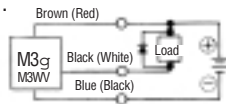

Fig. 3. Example where inductive load is used with diode. Use diode Hitachi V06C or equivalent.
- When connecting and using an inductive load (relays, solenoid valves), as surge voltage occurs with the switch off, be sure to wire a protection circuit as shown in Fig. 3.